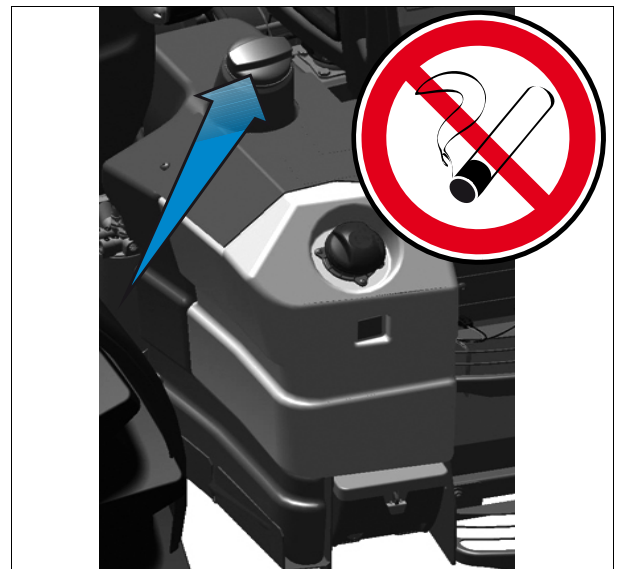

Fig. 2.
- Do not smoke while refueling the tractor. Keep away from open flames *fig. 2*.